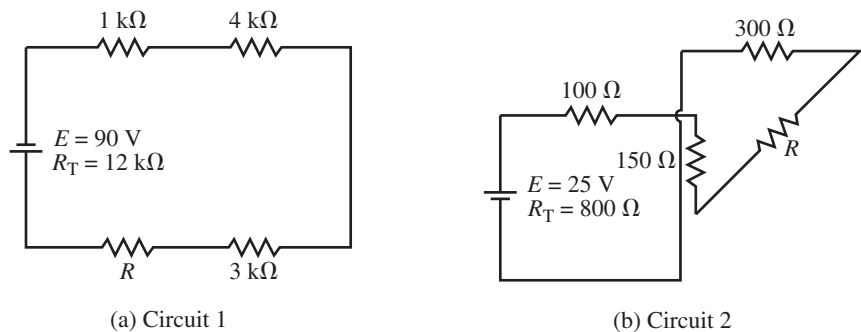

FIGURE 5–56
13. For the circuit of Figure 5–57, find the following quantities: